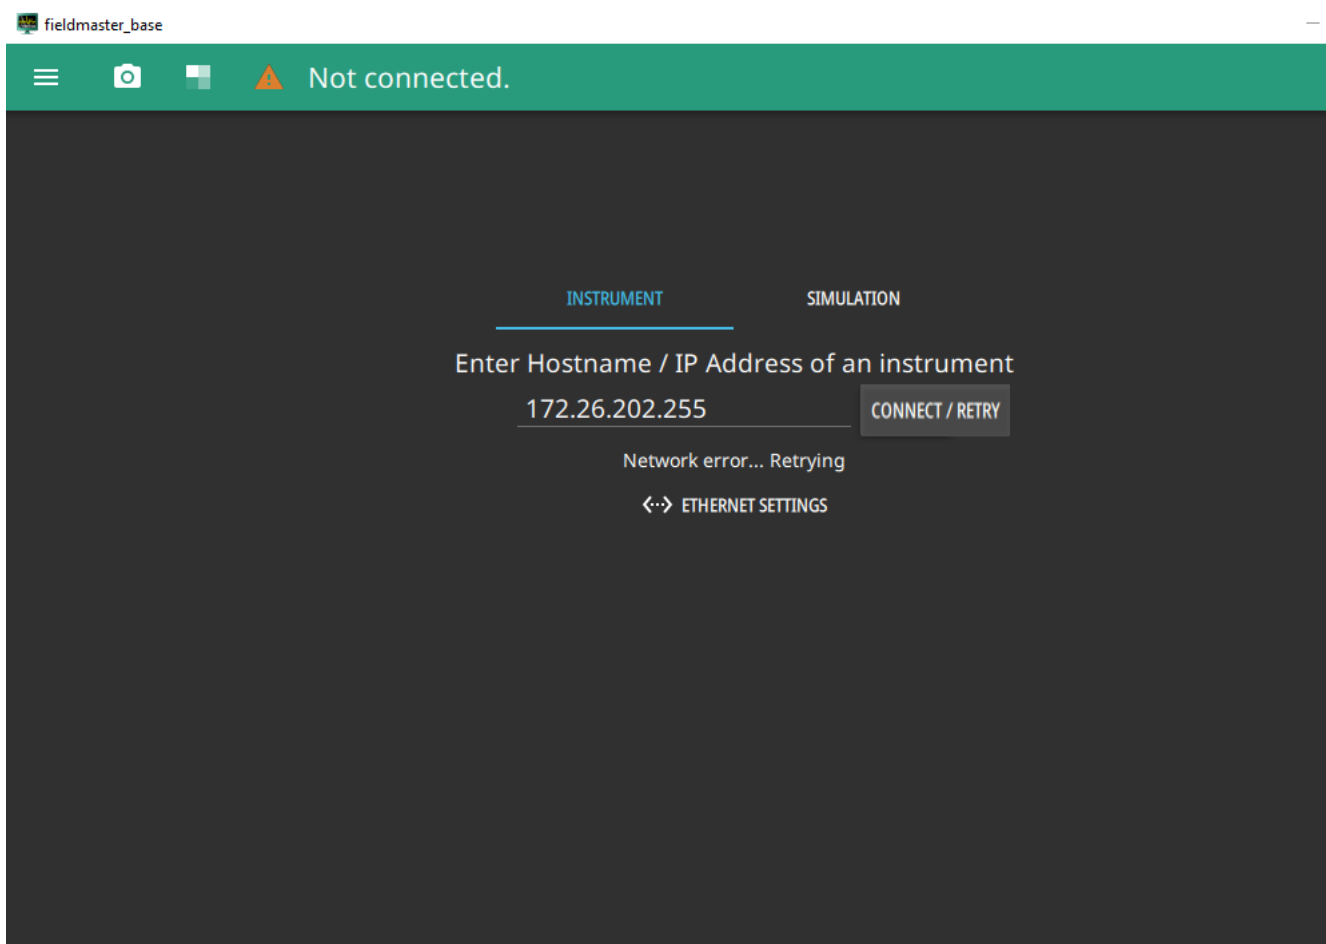

Figure C-2. Connecting to Instrument using Hostname/IP Address
2. Enter either Hostname/IP address in the field provided under the INSTRUMENT tab. See Figure C-2.